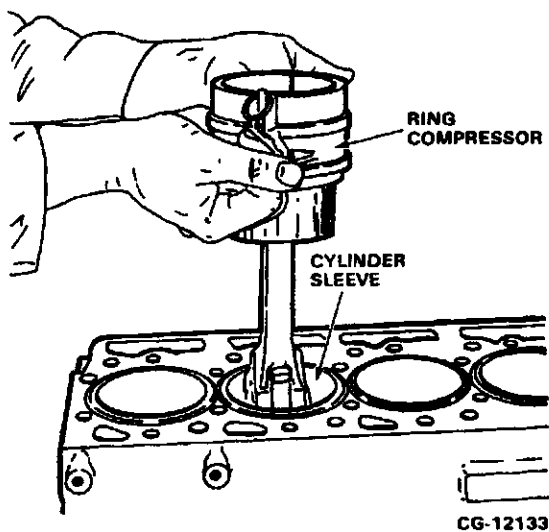

Figure 6.56. Place Piston and Rod into Cylinder Sleeve
5. Insert the piston and rod assembly into the sleeve. Refer to Figure 6.56.